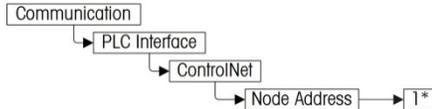
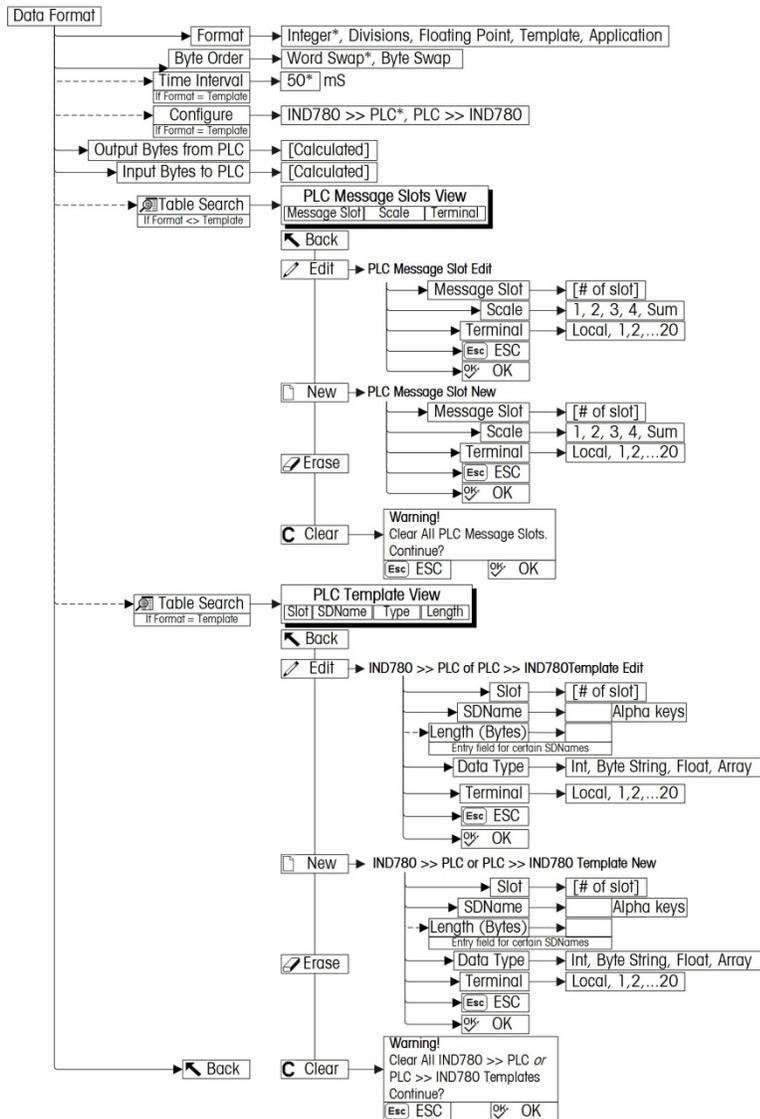

Figure 3-8: The ControlNet Program Block
Figure 3-9: PLC Data Format Setup Block
The IND780 terminal automatically detects the presence of a ControlNet Kit option board if one is installed. When the IND780 detects that a ControlNet board is present, it enables the ControlNet parameters in a program block under Setup > Communication > PLC Interface > ControlNet. Figure 3-8 shows the ControlNet program block and Figure 3-9 the PLC data format setup block at Communication > PLC Interface > Data Format, with default settings indicated by an asterisk.
1. Select **Communication > PLC Interface > Data Format** (Figure 3-9).